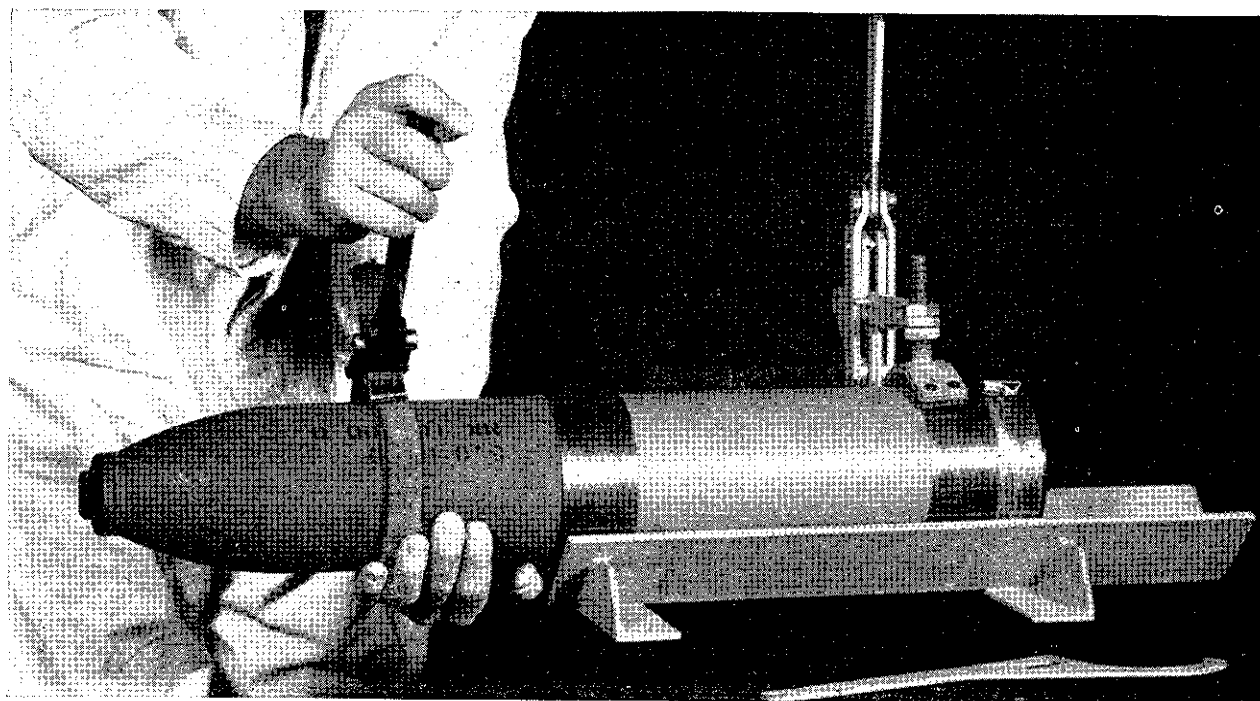

Figure 16.—Use of Strap Wrench in Assembly of Head and Motor.
8. If the head does not thread easily into the motor, a strap wrench like that shown in figure 16 may be used. The head should be screwed into the motor until it is wrench tight and, in so far as possible, the seating surfaces meet firmly. If